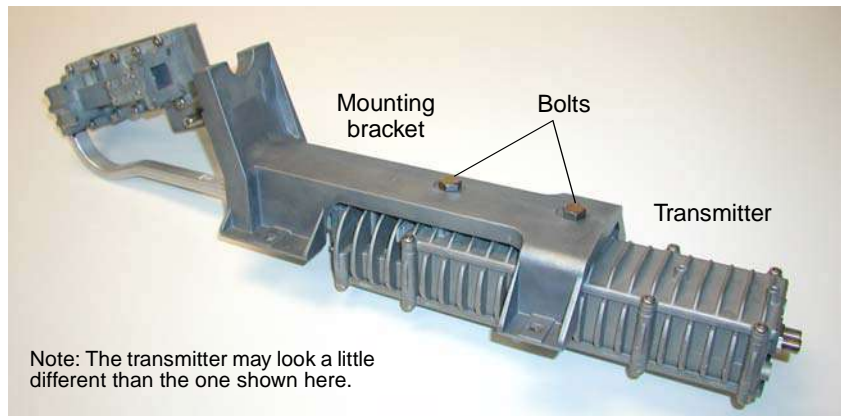

Figure 27: Attaching the upper mounting bracket
1. Place the upper mounting bracket onto the transmitter, in the position shown in Figure 27. Align the two bolt holes in the bracket with the holes in the transmitter.